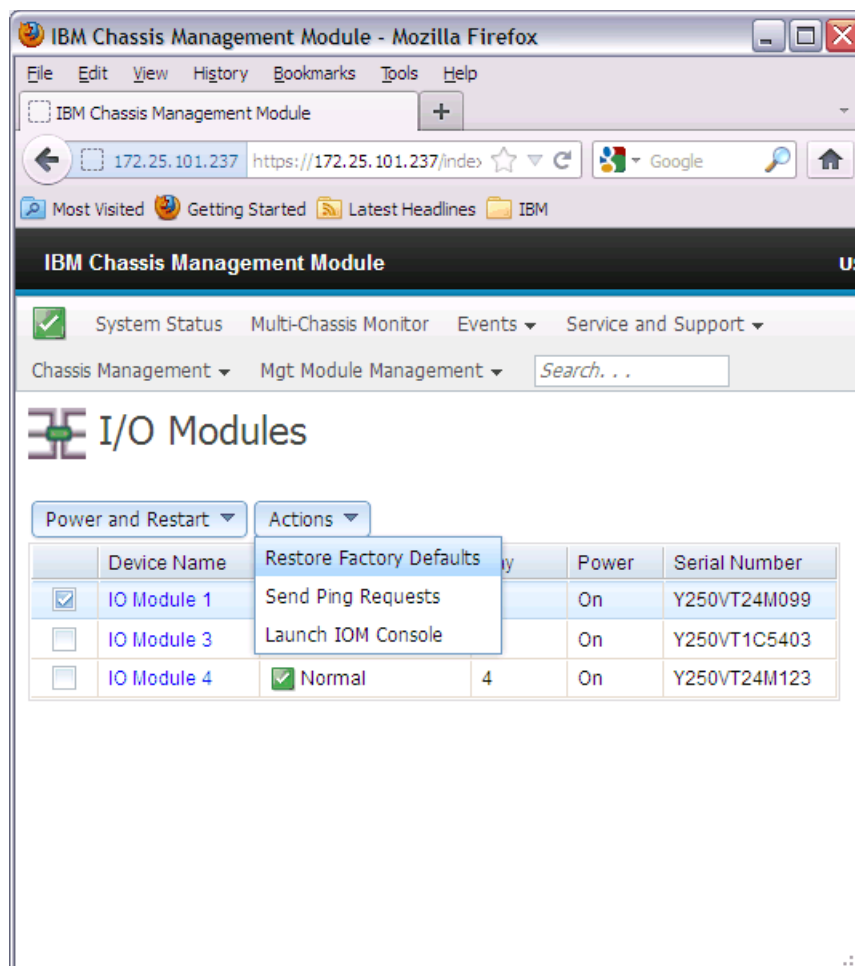

Figure 6-11 I/O Module 1 restore factory defaults
- As shown in Figure 6-11, select the I/O module that must be reset to factory defaults and click **Actions** → **Restore Factory Defaults**.